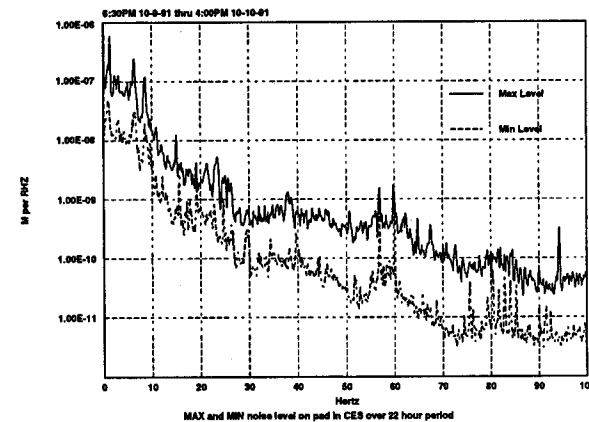

Figure 1. Example plot showing Max and Min power spectra over a 22 hour period Caltech taken in the 40 M Laboratory.
- B. Calibrated power spectra plots showing Max, Min and average ground noise measurements. An example of Max and Min power spectra measurements for the Caltech 40 M Laboratory is given in Figure 1. Method for calculating Max and Min power spectra is to be agreed upon with LIGO representative. There should be a single plot for each sensor orientation and each measurement site.